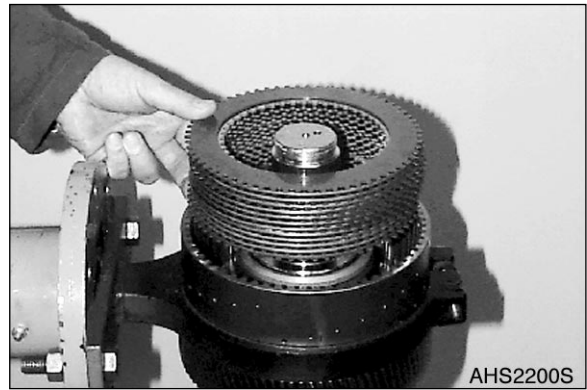
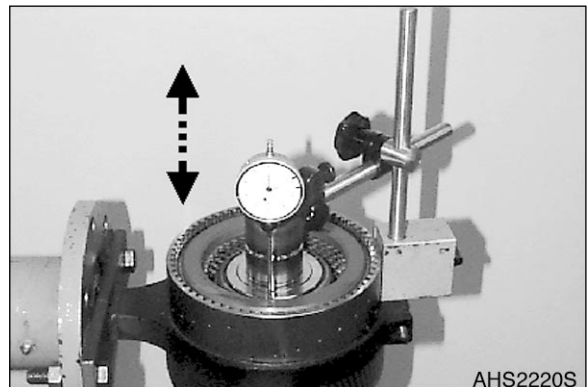

Figure 260
Figure 262
1. Check plate clearance $KV = 2.8 - 3.0 \text{ mm}$ (0.1102 - 0.1181 in) (Figure 260 - Figure 262).